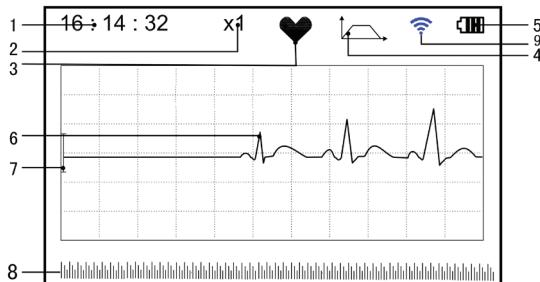

Figure 3-4 ECG Measuring Screen
enter into measuring screen, as shown in Figure 3-4.
1. After choosing a proper measuring method as described in Chapter 3.2.1, press  "Measure" to enter quick ECG measurement automatically, as shown in Figure 3-4. The first 15 seconds is preparing phase during which the device will judge whether the position of electrode is befitting or not according to measured ECG waveform. Please adjust your holding position if the detected waveform is not smooth.